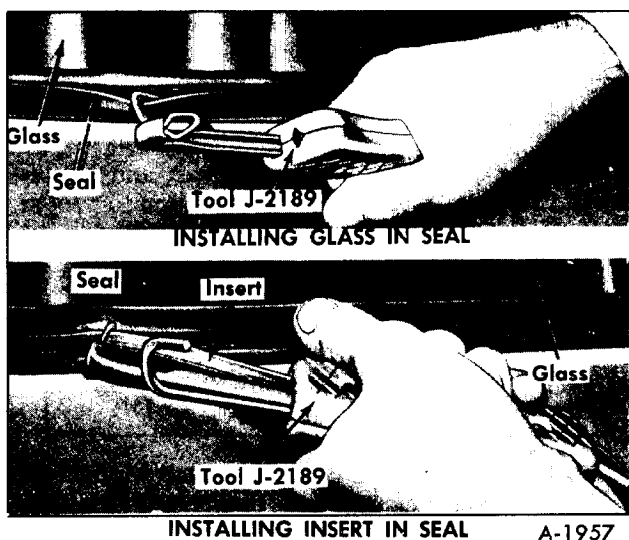

Figure 3—Positioning Seal and Insert
INSTALLATION (fig. 3)
1. Reposition rubber seal on opening flange. Raise new glass to outside of seal; then with hook end of installer tool (J-2189) in glass groove of seal as shown in figure 3, move tool around glass to force outer lip of seal over edge of glass.
2. Thread end of rubber insert through handle and loop of installer tool (fig. 3). Push tool loop and end of insert into groove of seal. Feed in rubber insert, while proceeding around window. Use a hitching movement of tool to avoid elongating insert. If new insert is being used, cut off insert allowing sufficient overlap for a tight joint; then butt into groove.
1. Reposition rubber seal on opening flange. Raise new glass to outside of seal; then with hook end of installer tool (J-2189) in glass groove of seal as shown in Figure 3, move tool around glass to force outer lip of seal over edge of glass.
2. Thread end of rubber insert through handle and loop of installer tool (figure 3). Move installer to middle of insert. Starting at top-center of rubber seal push tool loop and insert into seal groove. Feed in rubber insert, while proceeding around one side of window. Use a hitching movement of tool to avoid elongating insert, position emergency exit pull ring on rubber insert at top center of window. Thread other end of rubber insert through handle and loop of installer tool. Push tool loop and insert into seal groove and position pull ring in place. Feed in rubber insert, while proceeding around other side of window. If new insert is being used, cut off insert allowing sufficient overlap for a tight joint; then butt into groove at bottom of window.